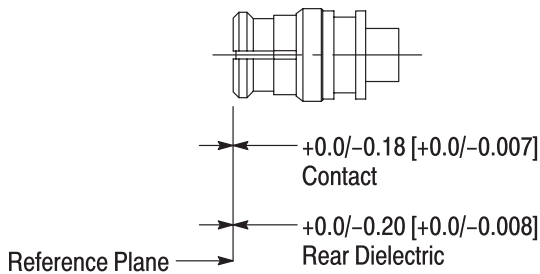

Figure 5
- Dimensions corrected in Figure 2 and Figure 5
11. Adherence to assembly procedure should yield tolerances shown in Figure 5.